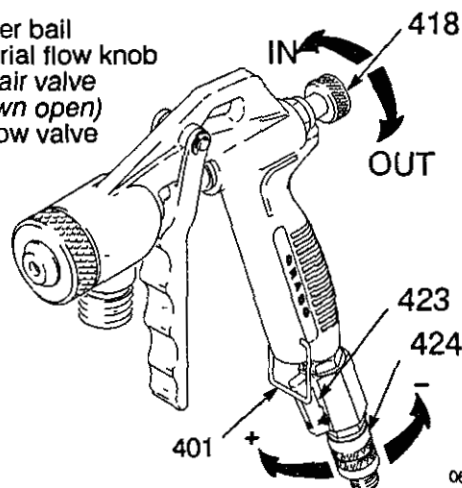

Fig 8-1
Adjust the material flow knob (418) so only 1 or 2 threads are visible. Fully open the air flow valve (424) by turning it as far as possible to +. See Fig 8-1. This is the standard adjustment for spraying texture materials. Before adjusting the gun, read pages 8 and 9.